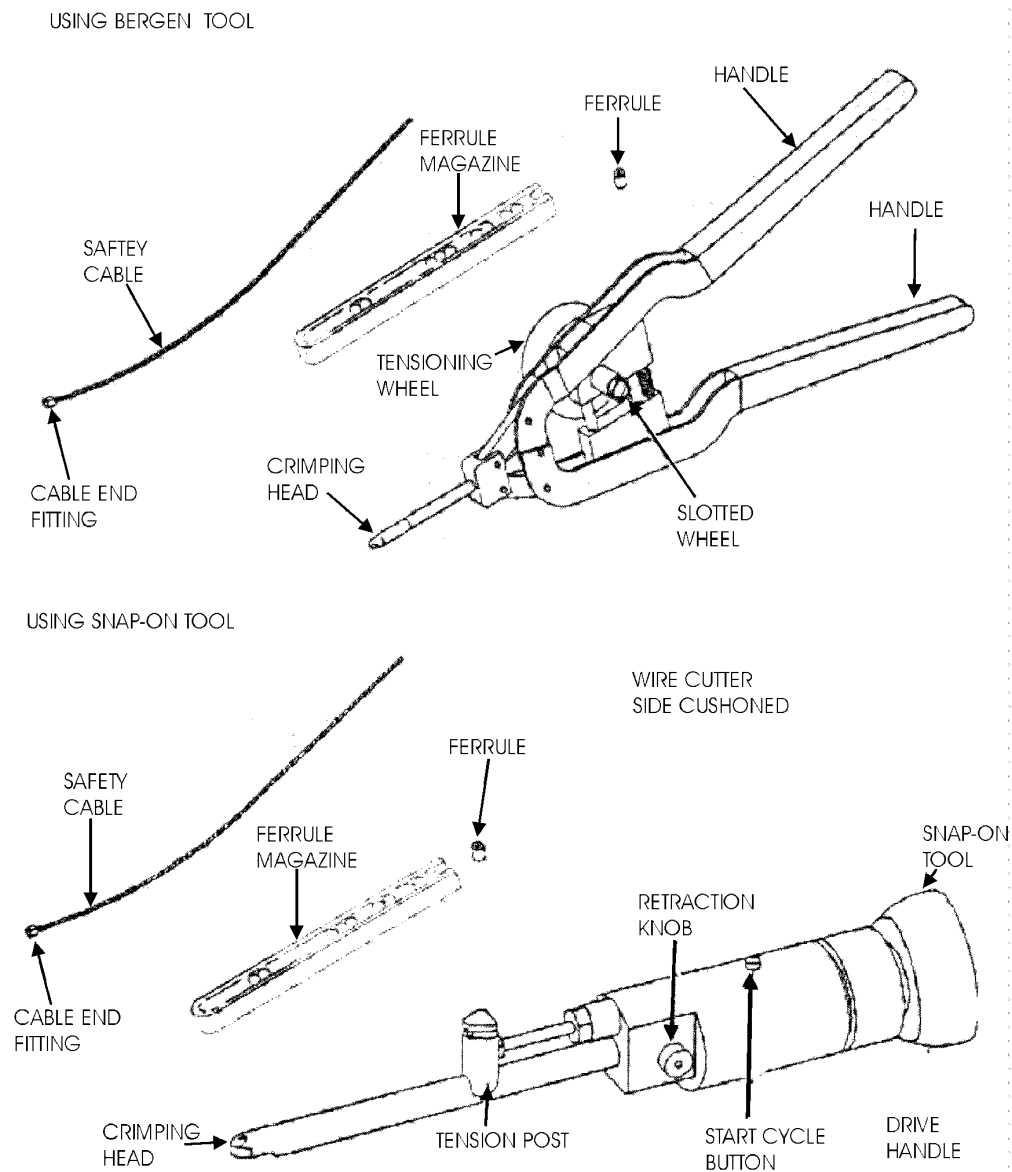

Figure 075-5-11. Safety Cable System Components
- a. The safety cable system has three components: The safety cable, ferrules and crimping tool. See Figure 075-5-11.